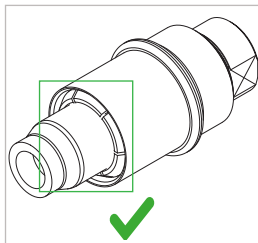
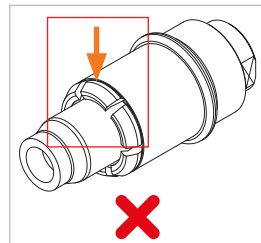

Figure 5
Figure 6
- Attention:** If the outer edges of the external diameter of the clamping jaws are visible (Figure 5 and Figure 6) or the retaining ring is not visible, then the connector is not correctly connected. The connector may spring out of place and medium may escape.